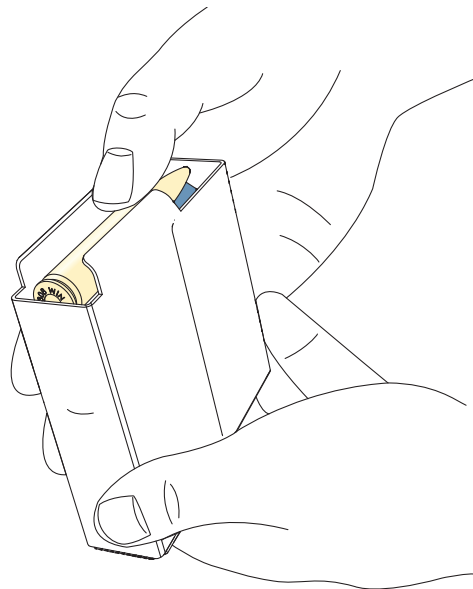

Fig 4-2
- Push the round down until it is caught by the magazine feed lips and follower (see Fig 4-2).